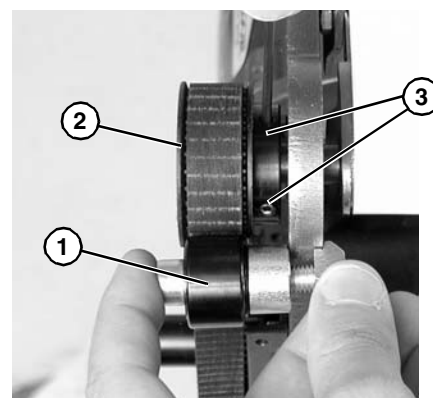

Figure 14
9. Place the cam bearing and spacer (Figure 14, item 1) next to the driven pulley (Figure 14, item 2). Ensure the flanges of the driven pulley are aligned with the cam bearing. Tighten driven pulley set screws (Figure 14, item 3). This will allow for proper belt alignment while conveyor is in use. Replace cam bearing and spacer (Figure 14, item 1).